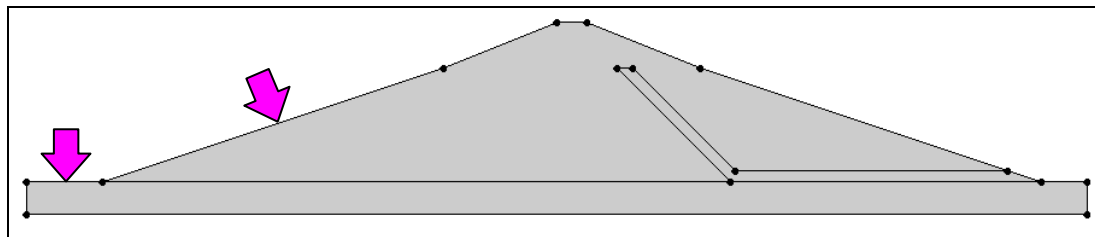

Figure 6. Assigning the head arcs
2. Double-click on one of the arcs on the upstream (left) side of the dam, as shown in the Figure 6 below.